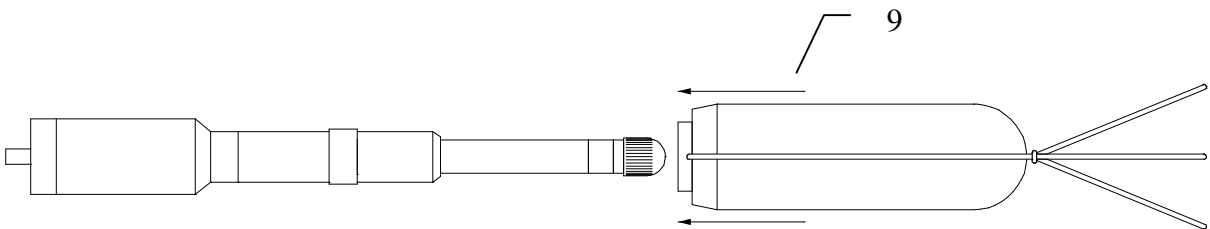

Fig. 5. Assembly of weatherproof microphone – step 5.
- Put TOP windscreen with anti-bird spikes (9) on the microphone assembled as above (Fig. 5) until the windscreen reaches microphone holder.